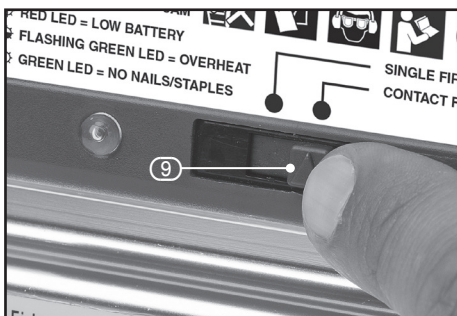

FIG.9
9.1 SINGLE FIRING MODE – FIG. 9